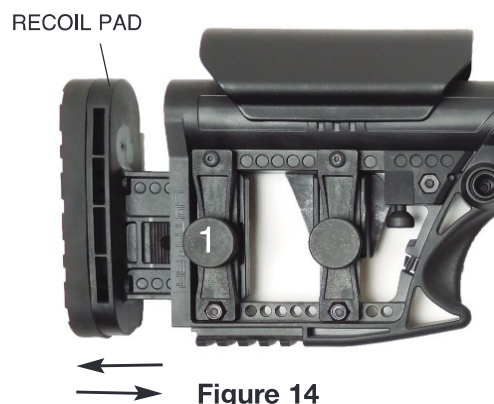

Figure 14
To adjust the recoil pad (Fig. 14), turn knob (1) counterclockwise to loosen and slide the recoil pad in or out to the desired position. Turn knob (1) clockwise to tighten and set recoil pad at desired position.